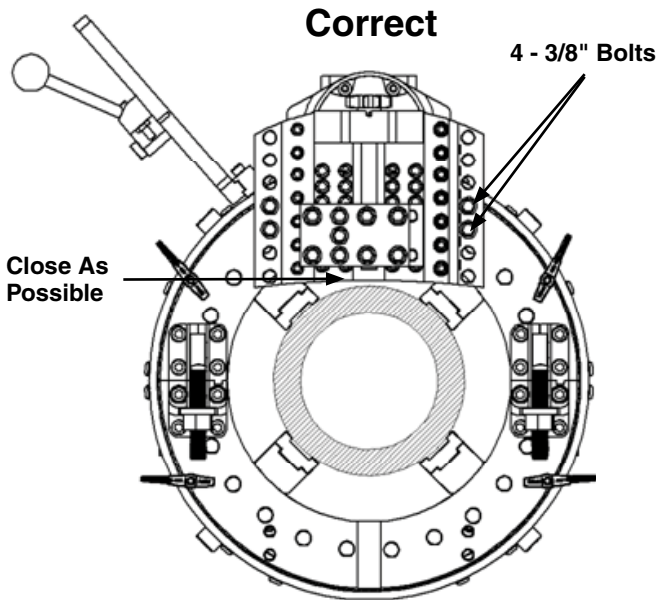

Fig. 1
5. Make sure the tool slide assemblies are positioned to clear the work piece but are as close to the O.D. as possible (See Fig. 1 and 2 on the next page). The tool slides can be moved by removing the 4 – 3/8"-16 socket head cap screws at the base of the slides. Reposition them to a new set of holes and replace the bolts.